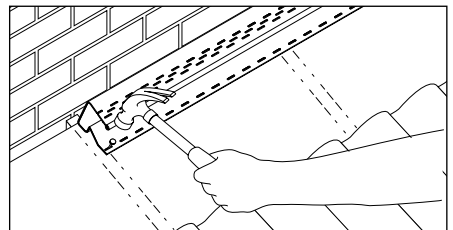

Fig. 2 - Fix batten section
- 3 Cut a small piece of lead support to use as a guide to setting out uPVC batten section. Lead support strip should coincide with a mortar joint above line of tiling and leave a gap not less than 5mm between batten section and wall (Fig. 2).